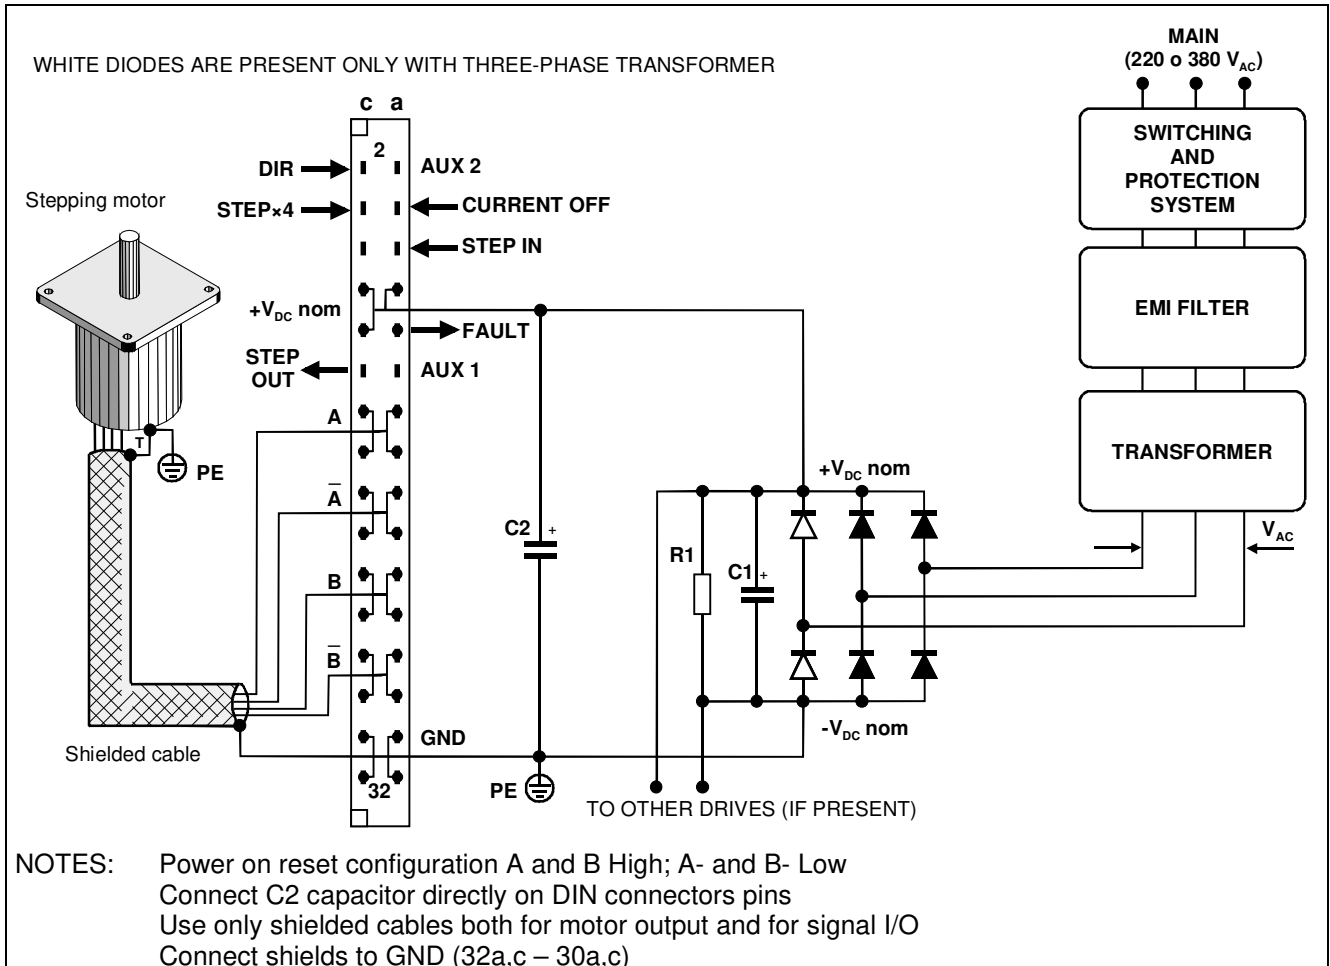

Fig. 4
In fig. 4 an example of the drive external cabling is indicated, showing the way to realize the power supply which has to be made by user; these indications apply only when user buys the drive alone without rack, motherboard and power supply produced by R.T.A.: in the case you have a complete rack with power supply, refer to chapter 8.
- 7.2 - In the schematic diagram of fig. 4 it is shown the possibility to use a single-phase group or, in alternative, a three-phase group. The choice between the two solutions depends on technical and economical considerations hard to summarize. Generally speaking a three-phase group is strongly recommended when the total required power overcomes one of these two limits: 500 - 600 Watt mean power and 700 Watt peak power. Please consider this only as a rough indication.